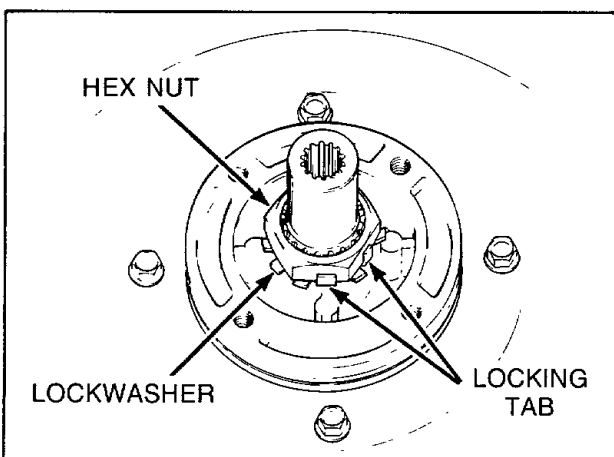

Figure 29
- Straighten bent tab(s) on lockwasher, *Figure 29*, then remove hex nut using No. 237P4 Hex Wrench.
**IMPORTANT:** Torque locknut down between 40 to 70 foot pounds (54.23 to 94.91 N·m). If a torque wrench is not available, tap hex wrench with a hammer until hub turns or until nut will no longer tighten. After nut has been tightened, bend at least two locking tabs on lockwasher into place on hex nut, *Figure 29*.
- i. Straighten bent tab(s) on lockwasher, *Figure 29*,